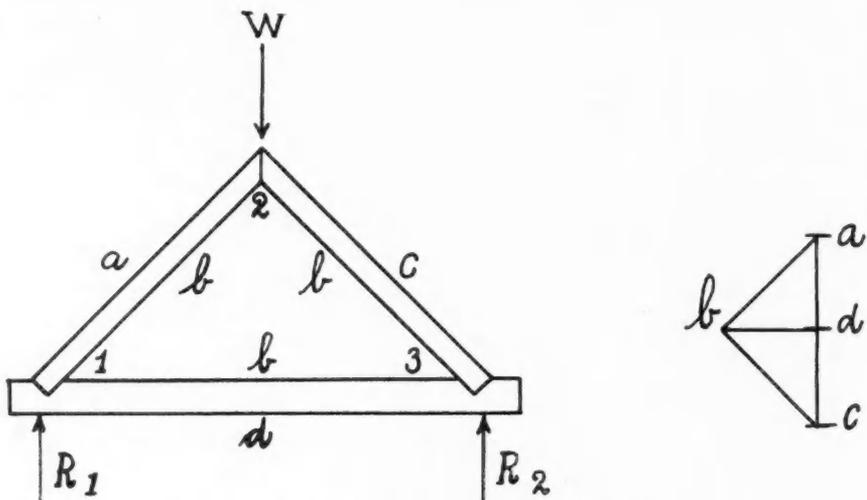

Fig. 11. Graphical Solution Applied to Simple Truss.
"A stress diagram of a triangular truss of the simplest form is shown in the right hand part of Fig. 11. The top force, W , is the load on the truss, and R_1 and R_2 are the supporting forces at the ends. Assume, for the purpose of illustration, that the load, W , is 1,000 pounds. This would make R_1 and R_2 each equal to 500 pounds on account of the symmetry of the figure. Beginning at the left hand joint (1), the forces acting to hold this joint where it is, are the supporting force R_1 , the stress in the lower tie member and the stress in the slanting strut, ab . Assume that 1 inch of length in our diagram represents 1,000 pounds of load or stress in a member. Then begin by laying off the load, W , which will be a vertical line 1 inch long. This line is drawn in a vertical direction since W acts downward in a vertical direction. Divide this line into two equal parts, since R_1 and R_2 are both vertical and equal, their sum being equal to